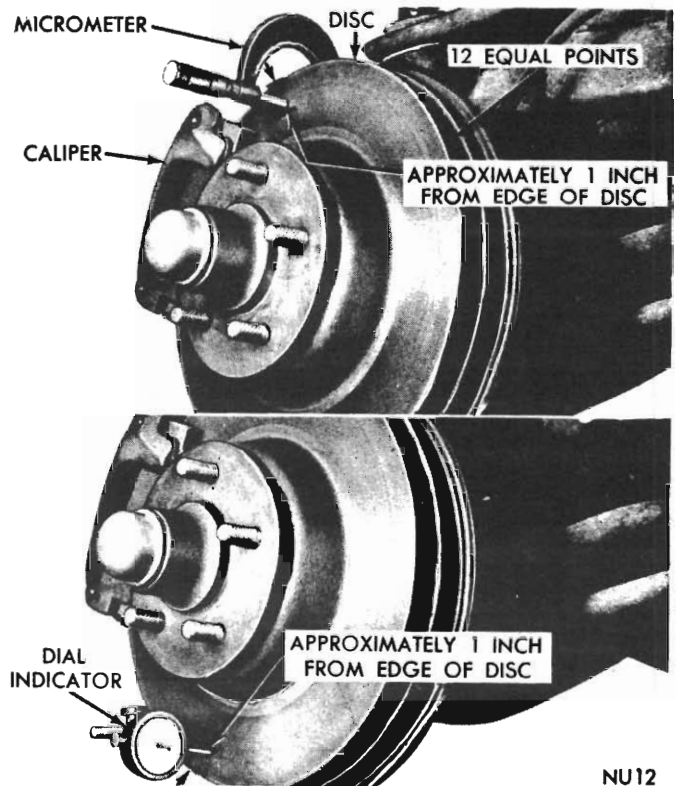

Fig. 15 - Checking braking disc run-out and thickness
(1) Mount dial indicator on steering arm with plunger contacting disc approximately one (1) inch from edge of disc (Refer Fig. 15).
(2) With wheel bearings adjusted to zero end play, check lateral runout. (Both sides of disc). Runout should not exceed .0025 inch. If runout is in excess of specification, install a new disc and hub assembly or reface the disc, being careful not to machine the disc below the specified minimum thickness of .895". Be sure to readjust the wheel bearing after the check.
(3) Thickness variation of disc should be made in conjunction with runout. Measure thickness of disc at twelve (12) equal points with a micrometer at a radius approximately one (1) inch from edge of disc. If thickness measurements vary by more than .0005 inch, disc should be removed and a new disc and hub assembly installed.